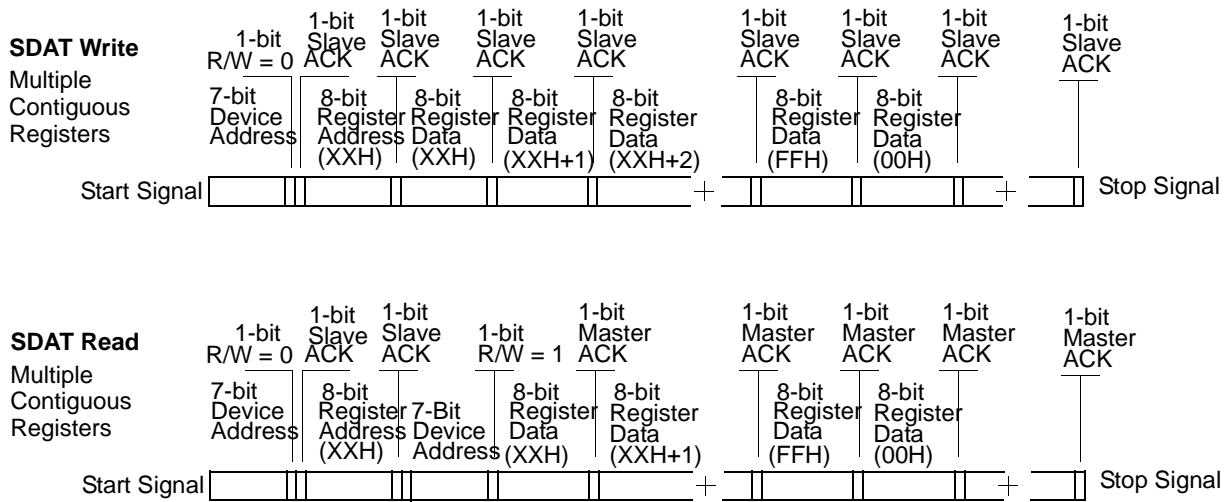

Figure 3. Data Frame Architecture
Start Bit; seven-bit Device Address (DA); R/W Bit; Slave Clock Acknowledge (ACK); eight-bit Memory Address (MA); ACK; eight-bit data; ACK; eight-bit data in MA + 1 if desired; ACK; eight-bit data in MA+2; ACK; etc. until STOP bit. The basic serial format is illustrated in Figure 3.